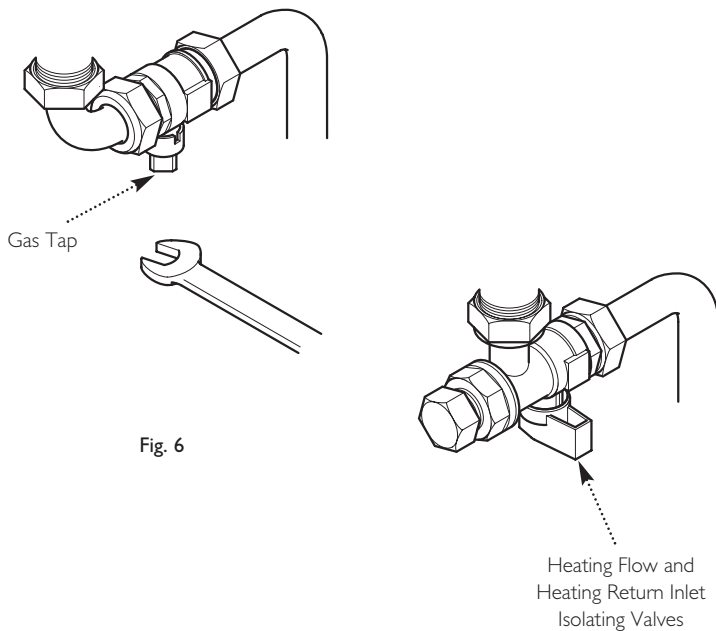

Fig. 6
1. Using a suitable open ended spanner, turn the square nut on the gas tap through 90° ($\frac{1}{4}$ turn) to isolate the gas supply at the boiler (Fig. 6).
2. The water isolating valves are positioned under the boiler and can be closed by turning their taps to the right towards the wall (Fig. 6).